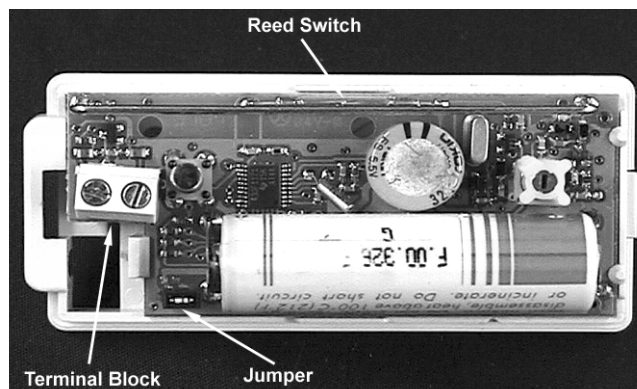

Figure 2. UFT component locations.
3. Attach the wire to the terminal block. See Figure 2.